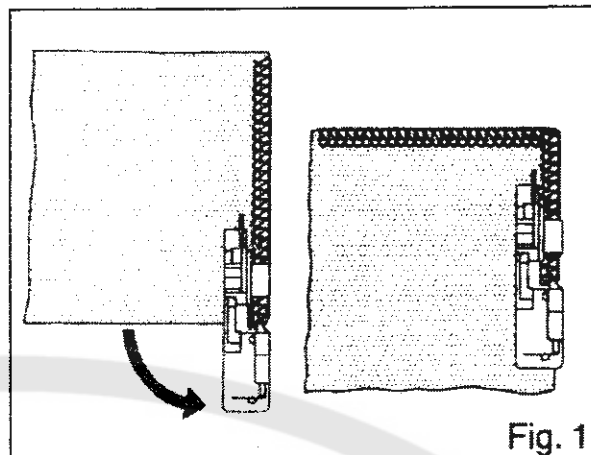

Fig. 1
3. Turn the fabric, lower the presser foot and begin stitching in the new direction. Fig. 1.
1. Snap the detachable cord guide, in your accessory set onto the thread guide pole (Fig.1).
2. Place a "filler" cord, such as a crochet cotton, gimp, wool, knitting yarn, or shirring elastic at the rear of the machine spool pin. Pass the cord through the cord guides (1) and (2) and then through the left needle thread guide (3). See Fig. 1.